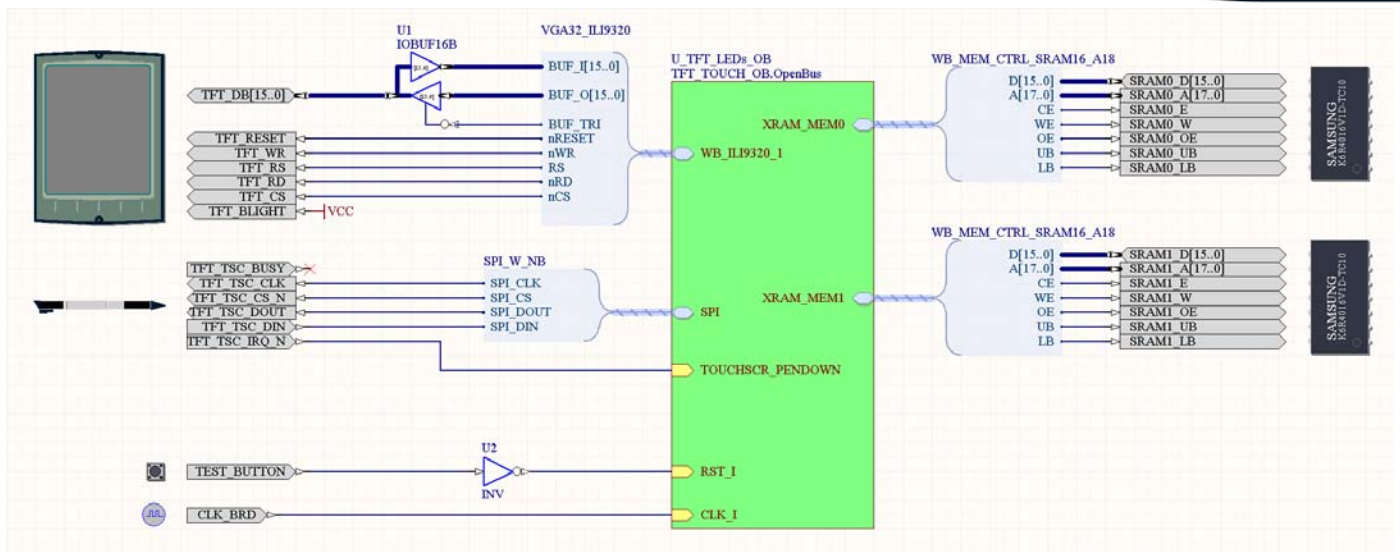

Figure 2. Top-level schematic for the TFT\_TOUCH design.
10. Wire up the top-level schematic as shown in Figure 2, using the pre-defined Harness Connectors as done in prior sessions.